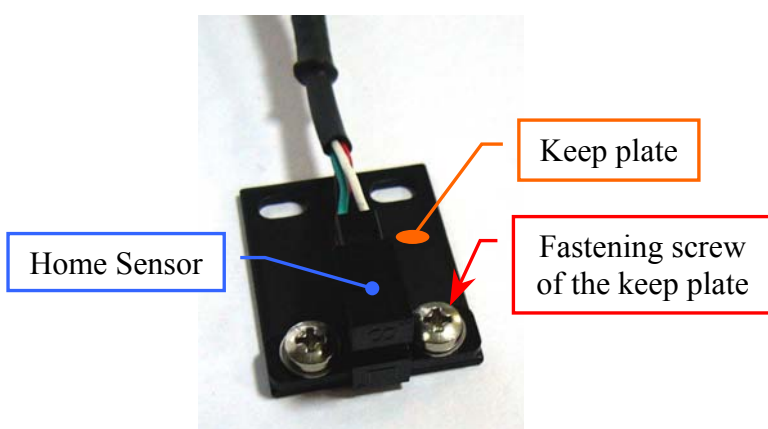

Fig. 88 – Keep plate fastening screws of the Home Sensor
5. Unscrew the two keep plate fastening screws of the Reagents Plate Home Sensor (**Fig. 88**) and take out the sensor from the keep plate.
6. Position the keep plate below the new home sensor as showed in **Fig. 88**, center the sensor with respect to the keep plate and screw its two fastening screws.
5. Unscrew the two keep plate fastening screws of the Satellites Mov. Reagents Plate Home Sensor (**Fig. 88**) and take out the sensor from the keep plate.